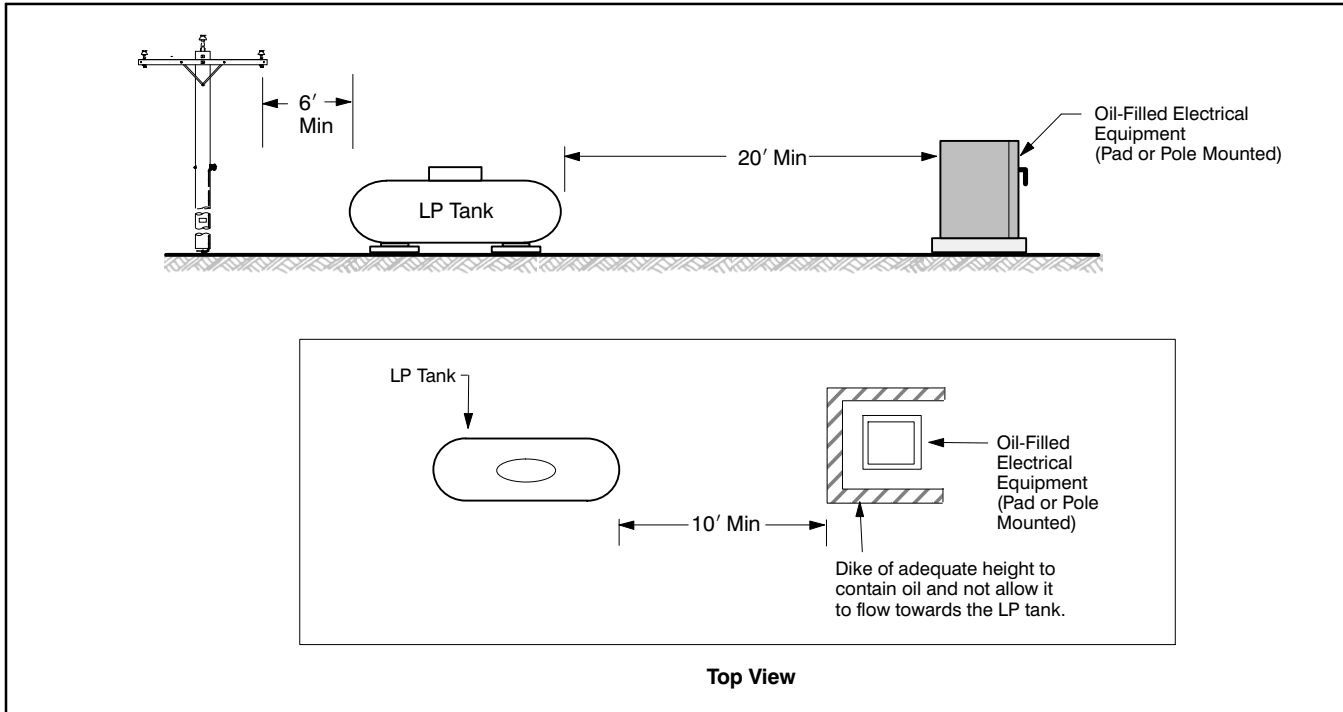

Figure 5 Minimum clearances from oil-filled equipment to LP, hazardous liquid, or fuel tanks
Facilities used to dispense or store LP or hazardous liquids or fuels.	20 feet. See Figure 5 . 10 feet. See Figure 5 .
If there are liquefied propane (LP), hazardous liquid, or fuel tanks on your property, the following minimum clearances apply from PSE's padmounted transformer or the ignition source (see *Figures 5 and 6*).